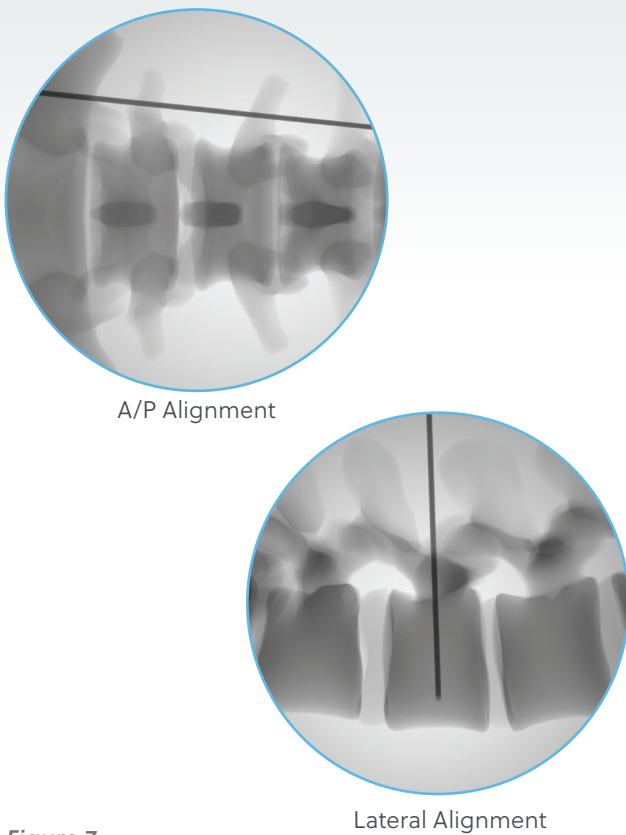

Figure 7
- When visualizing the anatomy, the superior endplates on the A/P radiograph should be parallel, as well as showing perfect symmetry of the pedicles in their relation to the spinous process (Figures 7).
- On the lateral radiograph, the endplates and pedicles should be parallel to ensure that the depth trajectory of the instrumentation is in-line with the A/P radiograph (Figure 7).